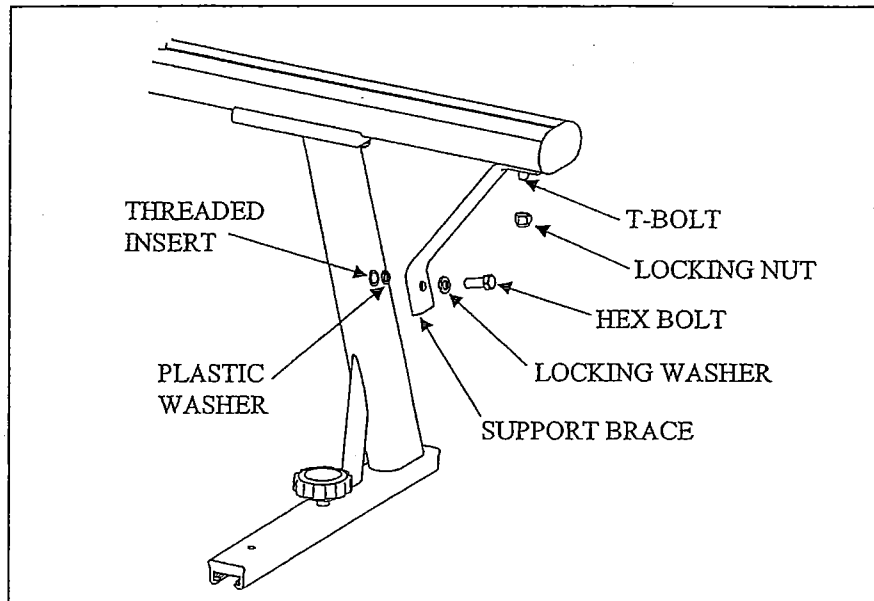

Figure 3
5. Attach the Support Braces to the Crossbar and Corner Unit using the remaining T-Bolts at the ends of the Crossbar. Position the Support Braces and attach as shown in Fig 3: Start attaching the Brace to the Crossbar by hand tightening the Self Locking Nut. (See Fig 3)
6. Secure the lower end of each Support Brace to the *Threaded Insert* in the Corner Unit. Insert the Hex Bolt through the Lock Washer and insert into the Support Brace. Then insert a Plastic Washer between the Support Brace and Corner Unit and thread the Hex Bolt into the corner. (See Fig 3)